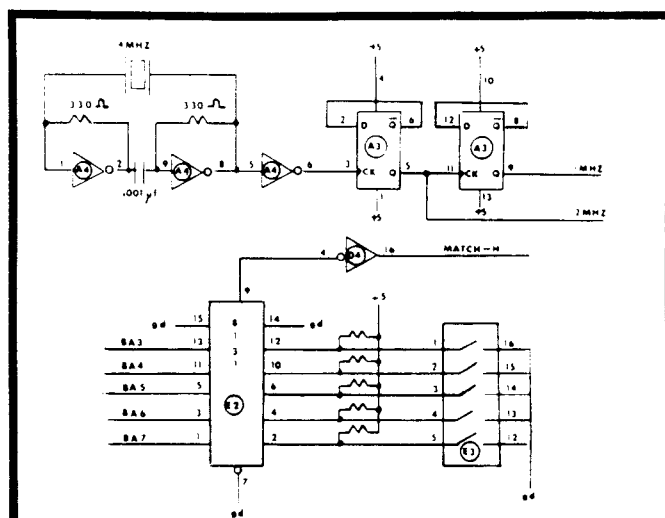
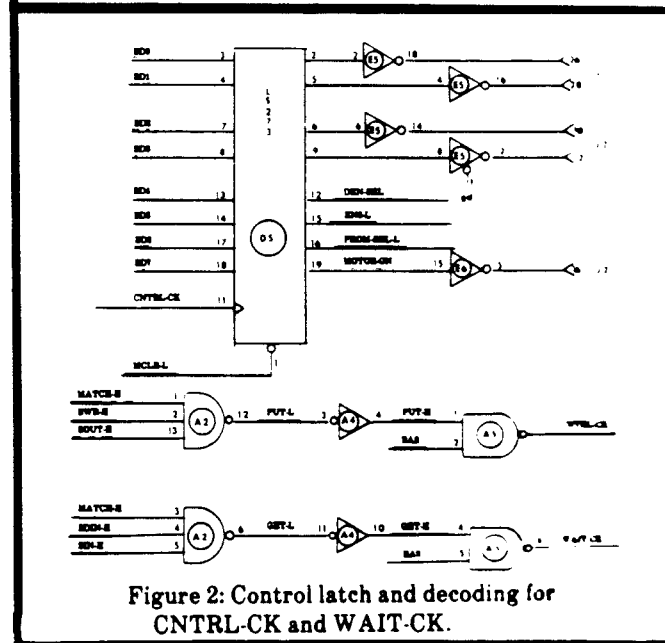

Figure 1: Clock and base port selection.
Figure 2: Control latch and decoding for CNTRL-CK and WAIT-CK.
**Addressing:** A 8131 (see Figure 1) is used together with dip switches and pullup resistors to select 8 addresses in the I/O space to which the board will respond. Assertion of MATCH-H, SOUT and PWR results in assertion of PUT-H and PUT-L (see Figure 2). Writes to the board with A2 set to 0 access the WD2797 (see Figure 3) and with A2 set to 1 they access the control latch (see Figure 2). Assertion of MATCH-H, SINP and PDBIN results in the assertion of GET-H and GET-L (see Figure 2). Reads from the board with A2 set to 0 access the WD2797 (see Figure 3) and with A2 set to 1 they access the wait flip-flop (see Figure 4).
**Clock:** A 4MHz clock (see Figure 1) is divided by 2 and 4 using two flip-flops to produce clocks of 2MHz and 1MHz for use by the WD2797. Bit 5 of the control latch determines whether a 1MHz or 2MHz clock reaches the WD2797. This choice is made by using two tristate drivers of an LS125 (see Figure 4) and enabling one or the other to pass either the 1MHz or 2MHz signal to the WD2797. The WD2797 requires the 1MHz for 5 inch drives and the 2MHz clock for 8 inch drives.
reads the status register of the WD2797. The 68008 CPU board executes this instruction by placing the address \$ffff00 on address lines A0 through A23 (see Figure 9). Address signals A3 through A7 are passed through E1 to E2, an 8131, which then asserts MATCH-H because BA3 through BA7 are all low (see Figure 1). Next the 68008 CPU board asserts S1NP and PDBIN. The WD2797 board receives these signals through (the always enabled LS244) D2 so BIN-H and BDIN-H are asserted on the board. Now pins 3, 4 and 5 of A2 (see Figure 2) are all high so GET-L is asserted. This forces the assertion of GET-H which in turn results in the assertion of BOARD-TO-BUS-L. Now the WD2797 has a low on CS because A2 is 0 and a low on RE since GET-L is asserted. The lines A0 and A1 now select the register within the WD2797 whose contents will be sent to its DAL lines and therefore appear as data on BD0 through BD7. Finally, the data appears on the S-100 bus through the enabled driver C2 (see Figure 9).
The address information and the assertion of MATCH-H is the same for read and write. After the address information is setup the 68008 CPU board asserts SOUT and places d4.b on DO0 through DO7. Following a suitable delay the 68008 CPU board asserts PWR. The WD2797 board receives PWR and SOUT through D2 (see Figure 10) so BWR-H and BOUT-H are asserted. Now pins 1, 2 and 13 of A2 (see Figure 2) are all high so PUT-L is asserted. This in turn enables the buffer C1 (see Figure 9) so the data on DO0 through DO7 arrives on BD0 through BD7. Now the WD2797 has a low on CS because A2 is 0 and low on WE since PUT-L is asserted. The lines A0 and A1 now select the register within the WD2797 to which the data on its DAL inputs will be sent.